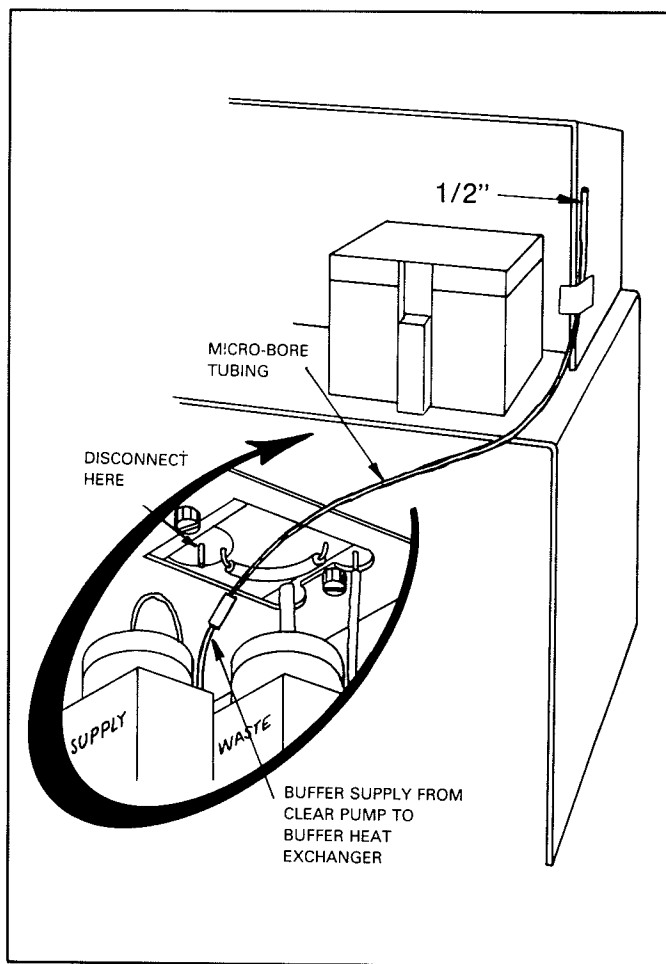

Figure 16. Leak-back rate setup.
- 5.4. Tape the micro-bore tubing vertically to the instrument so that the open end is about 0.5 in. above the temperature block's black plastic cover. (See Figure 16.)